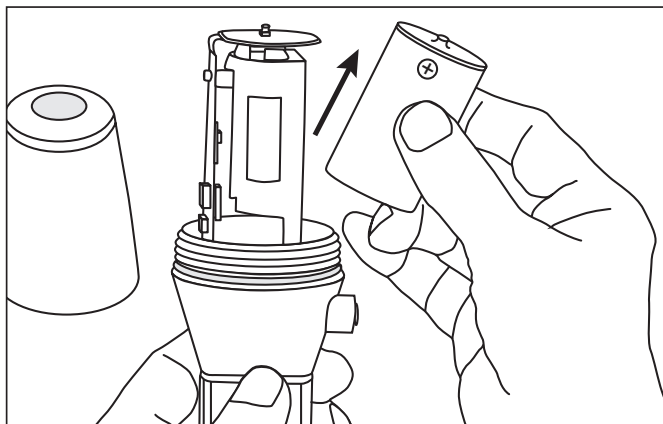

Figure 5
5. Insert the replacement battery positive side up (see figure 5). Replace only with Chesterton battery, item number 403683.